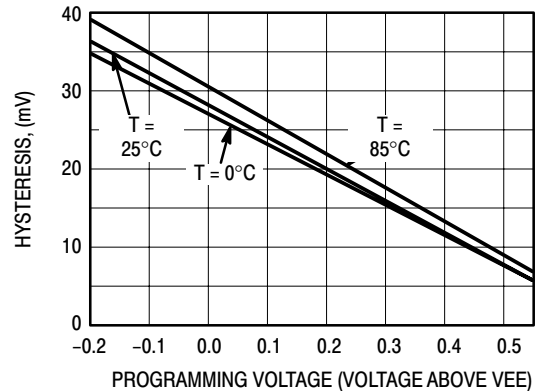

Figure 2. Hysteresis Programming Voltage
4. The HYS pin programming characterization information is shown in Figure 2, The hysteresis values indicated in the data sheet are for the condition in which the voltage on the HYS pin is set to V_{EE} .
5. Hysteresis skew (V_{skew}) is provided to indicate the offset of the hysteresis window. For example, at 25°C the nominal hysteresis value is 27 mV and the V_{skew} value indicates that the hysteresis was skewed from the reference level by 1 mV in the negative direction. Hence the hysteresis window ranged from 14 mV below the reference level to 13 mV above the reference level. All hysteresis measurements were determined using a reference voltage of 0 mV. The hysteresis skew values apply over the programming range shown in Figure 2.